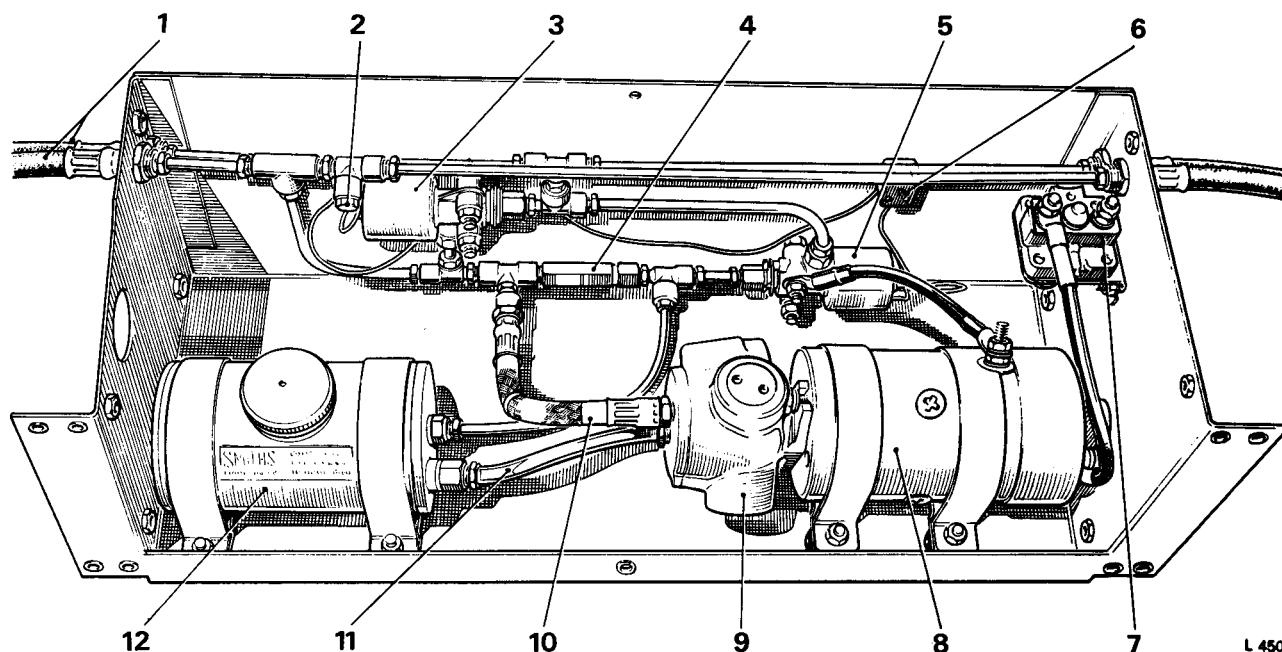

FIG. S71 COMPONENTS IN THE POWER PACK UNIT
The electric motor of the power operated hood system runs off the car battery through a solenoid operated switch mounted adjacent to the motor (see Fig. S71). The power operated hood system will not operate if the battery voltage falls below 9 volts, therefore it is essential that the battery is maintained in a fully charged condition.
4. Disconnect the flexible pipe at the 'Tee' junction (see Fig. S71) and place the free end of the pipe in a suitable container. Blank off the open end of the 'Tee' connection.
2. Disconnect the nylon outlet tube from the hexagonal outlet connection on the reservoir (see Fig. S71).
3. Disconnect the nylon tube and flexible hose from the pump (*see Fig. S71*) and blank off the open ends to prevent loss of fluid and ingress of dirt.
If difficulty is experienced in gaining access to the lower pump setscrew, remove the four nuts securing the pump motor retaining straps (*see Fig. S71*), disconnect the electrical cables from the motor and remove the pump and motor together. Note the position of the cables to ensure correct assembly.